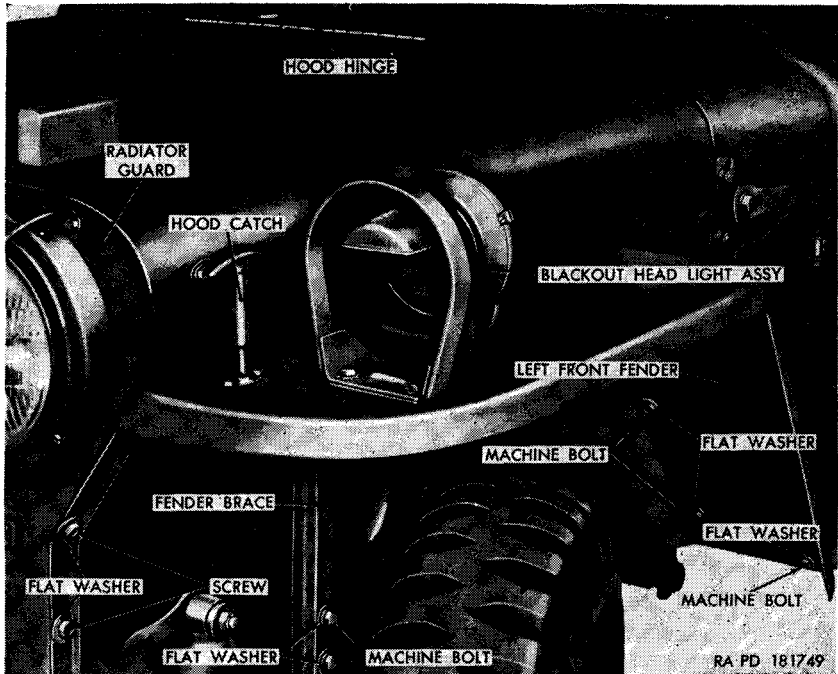

Figure 127. Hood and left front fender.
(fig. 127)
- (1) *Left front fender* (fig. 127). Raise the hood and rest it against the windshield frame. Remove blackout headlight (par. 158). Remove horn (par. 185). Unhook the cables from the five clips on the fender and splasher. Remove the bolts, lockwashers, and nuts from the clips holding the hand brake cable and fuel line to the fender splasher. Remove the four bolts, lockwashers, and flat washers securing the rear of the left front fender to the body. Remove the two bolts, lockwashers, and flat washers
- (1) *Left front fender* (fig. 127). Position the fender on the body, aligning the mounting holes with the mounting holes in the body, frame, and radiator guard. Secure the fender brace to the frame with two  $\frac{3}{8}$ -inch lockwashers,  $\frac{7}{16}$ -inch flat washers, and  $\frac{3}{8} \times \frac{3}{4}$  bolts. Secure the rear of the fender to the body with four  $\frac{5}{16}$ -inch lockwashers,  $\frac{7}{16}$ -inch flat washers, and  $\frac{5}{16} \times \frac{5}{8}$  bolts. Secure the front of the fender to the radiator guard with three  $\frac{5}{16}$ -inch flat washers and  $\frac{5}{16} \times \frac{7}{8}$  screws. Install horn (par.
*b. Installation.* Place the radiator guard in position at the front of the vehicle. Aline the slot in hinges with hinge pins (fig. 129) and lower guard onto hinge pins. Raise the guard into position, entering the six screws into the slots in the fenders with the washers between the screw heads and the fenders. Tighten the six screws securing the guard to the fenders (figs. 127 and 128). Connect the headlight and blackout marker light cables (fig. 129) at the left side of the vehicle.